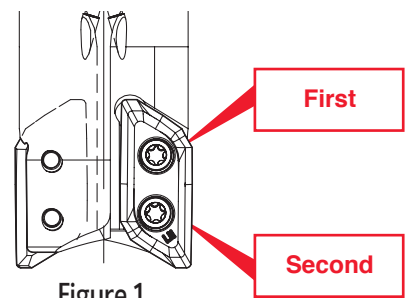

Figure 1
- When tightening the clamp screws, follow the order in Figure 1. The recommended torque value is 3.5Nm.